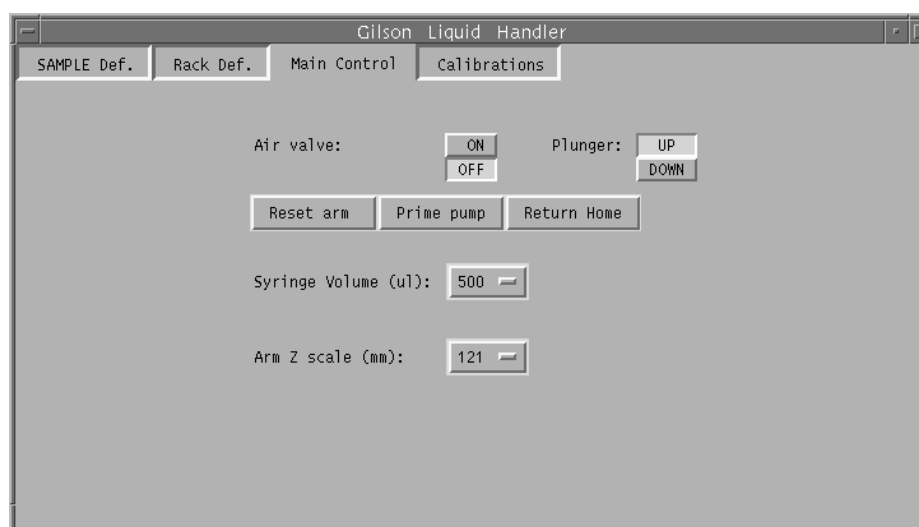

Figure 104. Main Control Window
- **Main Control** (shown in Figure 104) – For setting up and controlling the hardware.
Use the Main Control pane (shown in Figure 104) to control the Liquid Handler hardware.